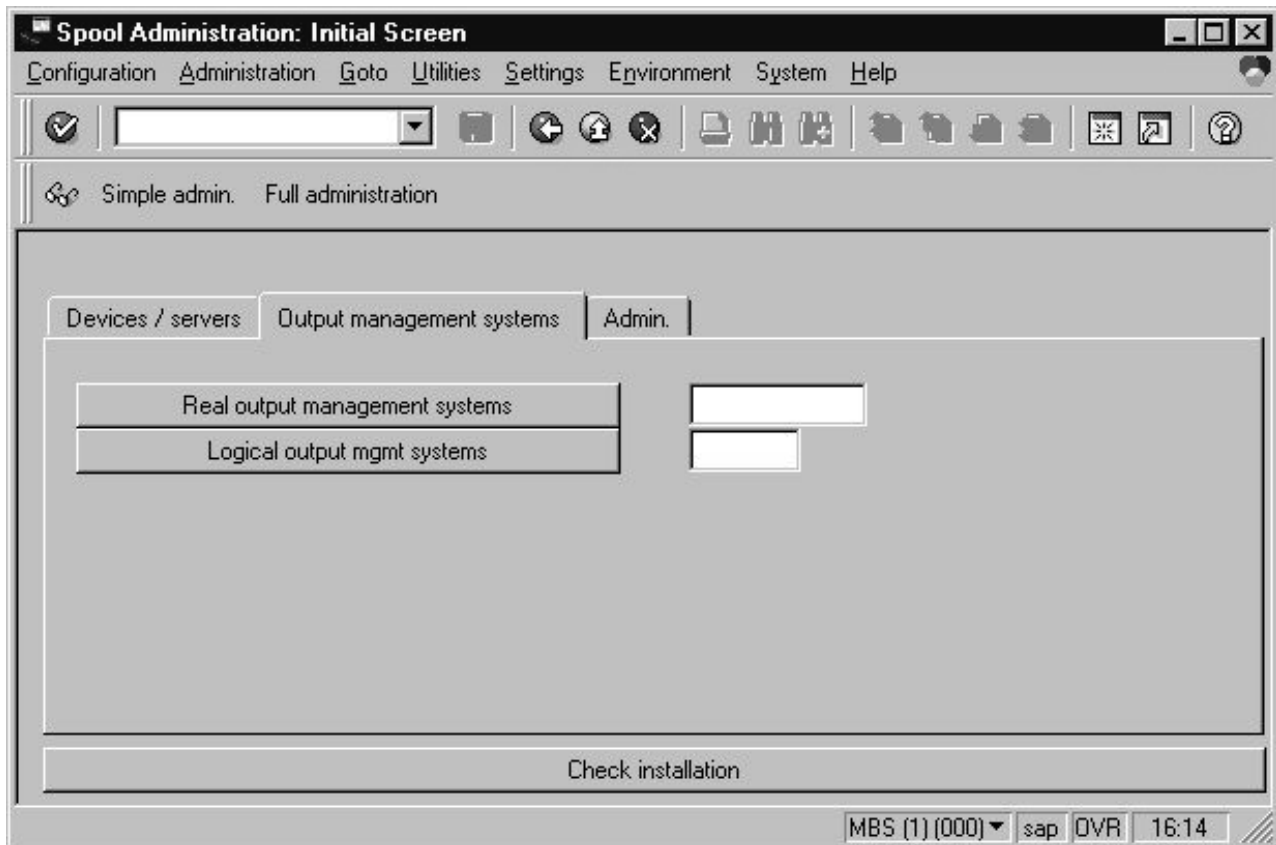

Figure 8. Spool Administration: Initial screen—Output Management Systems view
2. From the Spool Administration: Initial Screen window, click on the **Extended admin** button and select the **Logical OMS** push button from the Output management systems pane (as shown in Figure 8 on page 35) to obtain a list of the logical output management systems (LOMS) available on your installation.